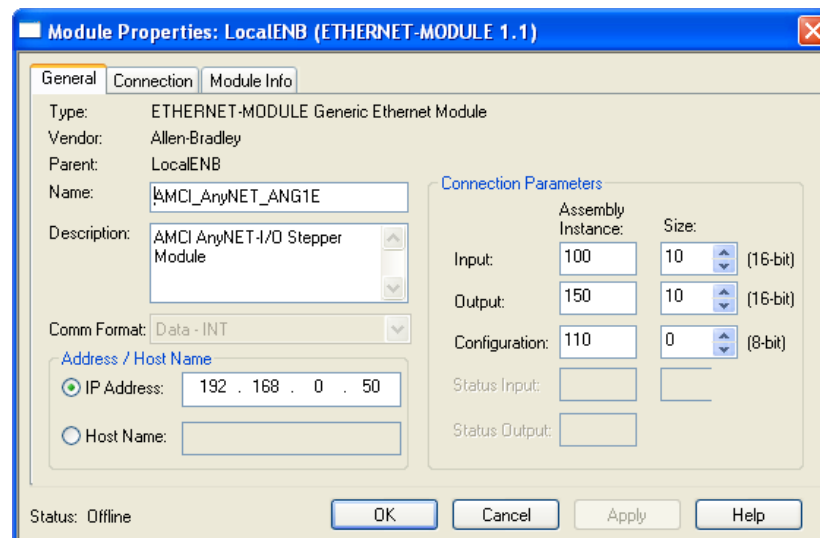

Figure 6.4 Sample ANG1E Configuration Screen
- 3) Set the following parameters in the Module Properties window. All parameters not listed here are optional. Figure 6.4 shows a completed screen.
- **Input:** Assembly Instance = 100, Size = Number of input words needed by the entire AnyNET-I/O Stack. Each ANG1(E) in the stack requires ten input words.
- **Output:** Assembly Instance = 150, Size = Number of output words needed by the entire AnyNET-I/O Stack. Each ANG1(E) in the stack requires ten output words.